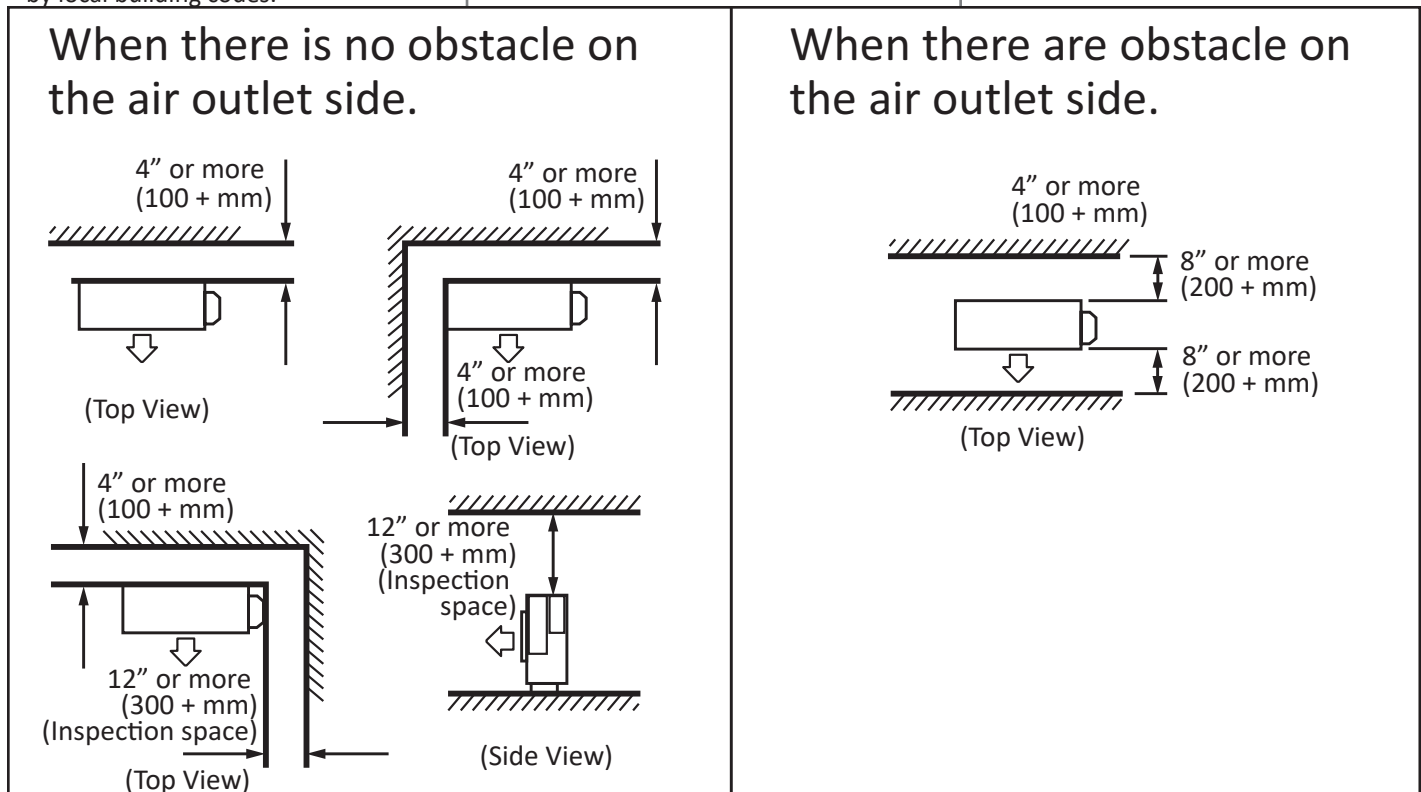

Figure 10 - Clearance specifications
- In a location with adequate space (clearances) for periodic servicing. See Figure 10. Away from windows of neighboring homes.